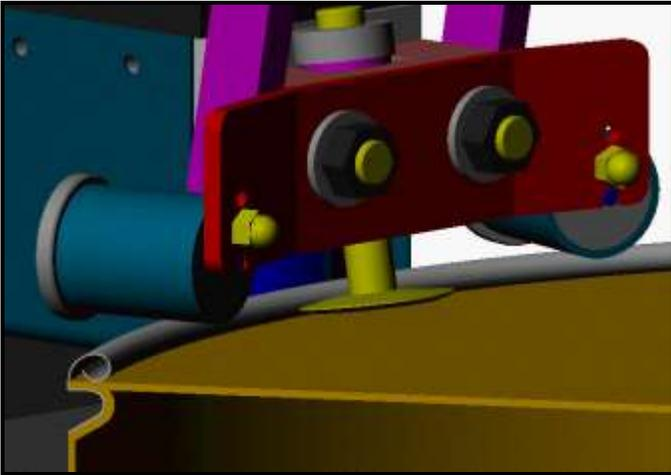

Figure 2: First Cut, Bottom of Drum.
1. Place the unit on the drum (the cutter wheel should now be in its highest position, positioned under the chime) by resting the chime rollers on the drum chime with the cutting wheel to the inside of the drum. Turn the T-bar handle clockwise until the cutter wheel is very snugly fit under the drum curl (see figure 2).